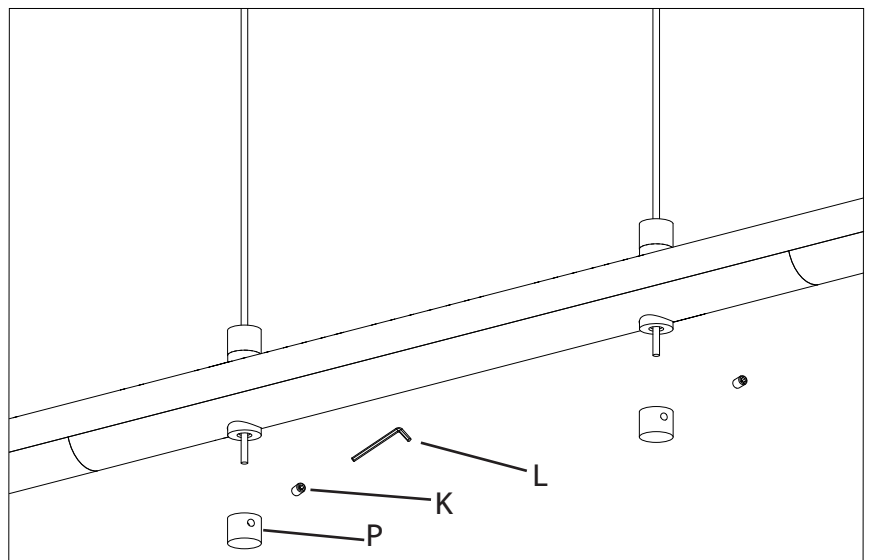

Fig. 3
7. After each arm has been positioned, trim any excess cable, leaving 1/4" exposed and install the cable finishing caps (P) and secure with small set screws (K) using the provided small Allen key (L) (Fig. 3).